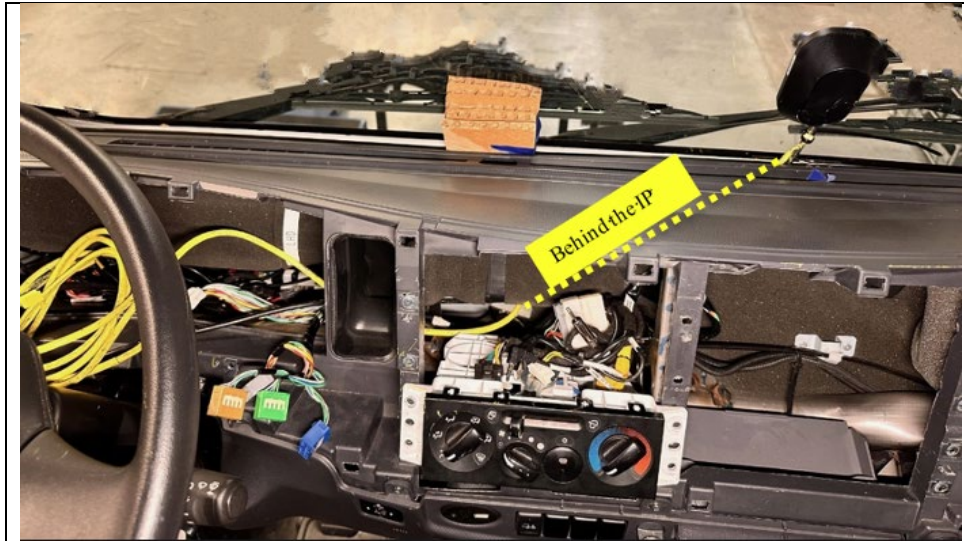

Figure 31
26. Route the camera cable down, behind and under the IP and HVAC duct towards the radio opening. Pull out the cup holder for additional access. Grab the end of the camera cable and pull out the remaining length of the cable. Loosely route the cable from the radio opening into the area behind the instrument panel cluster. (See Figure 31.)